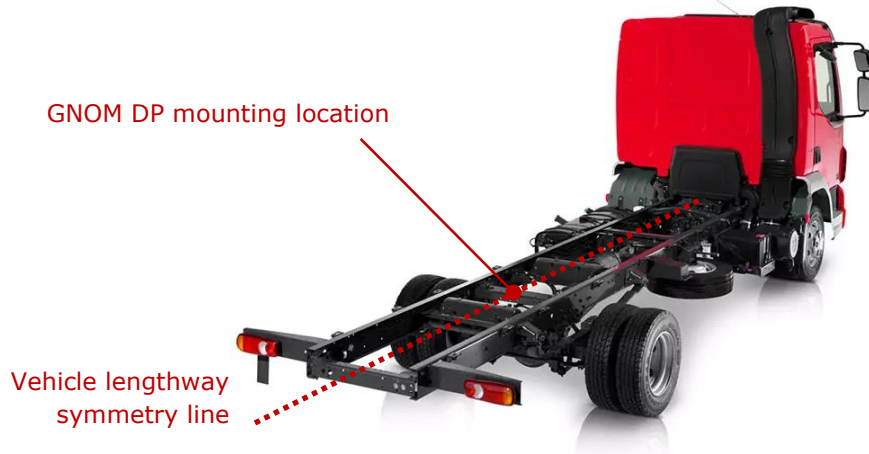

Figure 18 — Selection for GNOM DP mounting location for monitoring the Vehicle axle load
1) The location for mounting GNOM DP sensor is to be selected along the Vehicle lengthway symmetry line, between the wheels of the axle which is to be monitored, in the centre of the Vehicle frame cross bar (see figure 18).